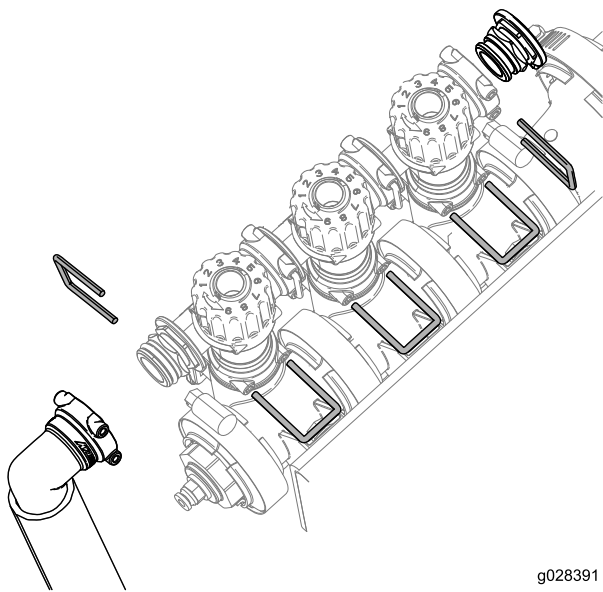

Figure 4
3. Remove the retainers holding the bypass adjustment assembly, end cap, and the fitting and hose assembly as shown in Figure 4.